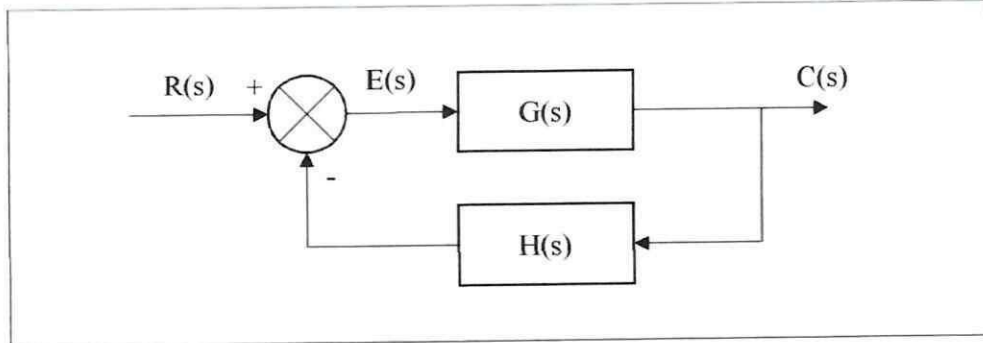

FIGURE Q1(b)(ii)
- (iii) Give **one (1)** example for each of the system configuration answered in **Q1(a)(ii)**. (2 marks)
- (i) List **two (2)** effects of adding a feedback in the performance of control system. (2 marks)
- (ii) **Figure Q1(b)(ii)** shows a block diagram of a control system with feedback system. Find its transfer function, $M(s)$. (7 marks)